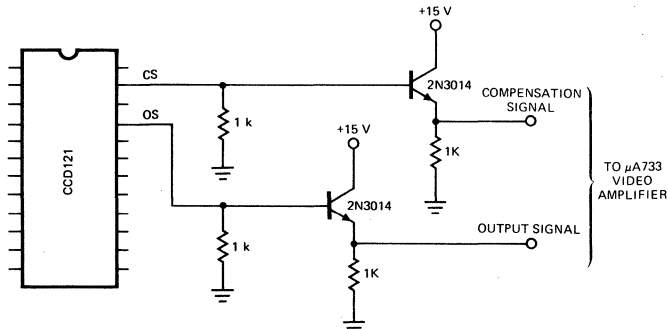

Fig. 1
- See Fig. 1 for test load configuration.